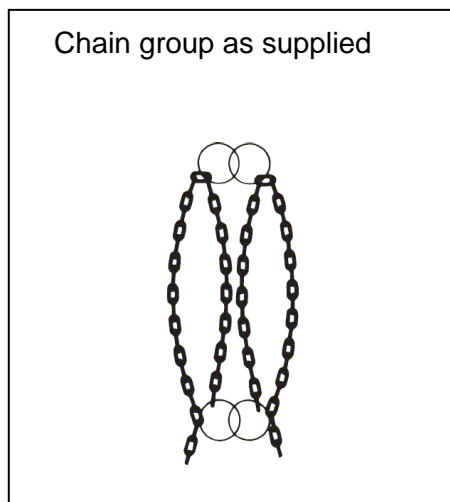

Fig. 6
1. Do not remove the wires tying the chains together until shortly before assembly. Otherwise the pairs of chains could get mixed up (figs 6 & 7).